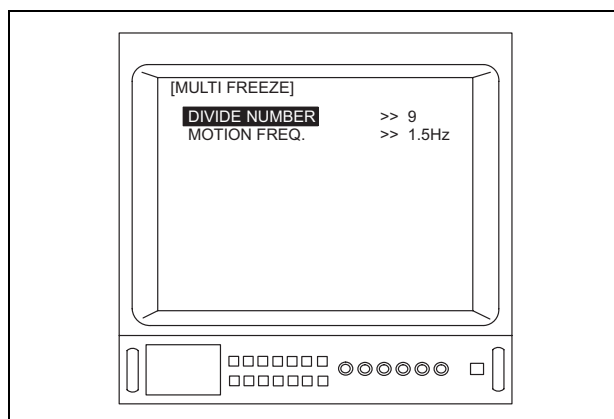

Figure 5.129
7. Depress the menu switch “←” or the “Enter” key on the keyboard to adjust the “DIVIDE NUMBER” (see Figure 5.129).